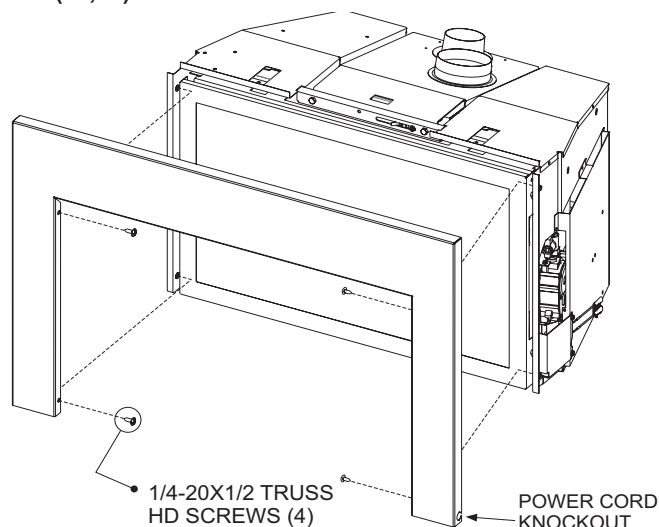

Figure 8
4. Align the mating holes and install four 1/4 - 20 X 1/2 inch Phillips Pan Head screws to secure. **See Figure 8.**